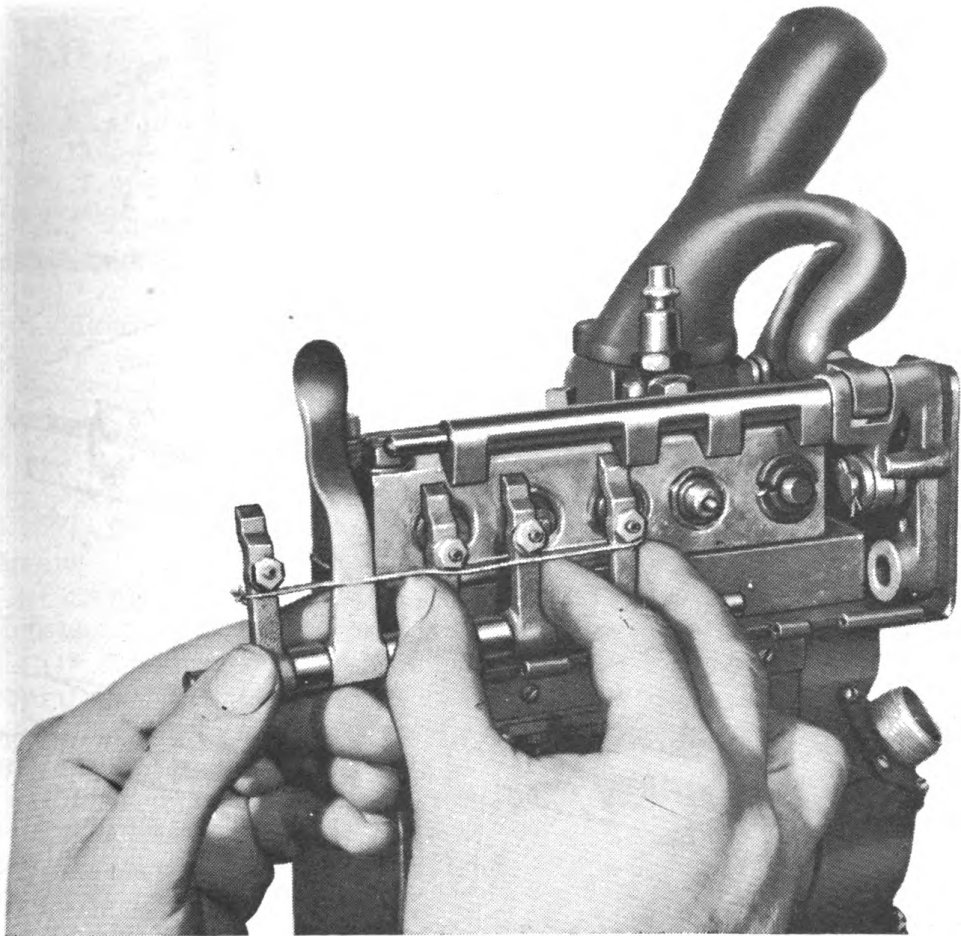

Fig. 105. Removing control levers, spacers, and shaft.
- Remove control levers, spacers, and shaft upon which they are mounted (fig. 105).
(1) Prepare gun for test firing, but do not open fuel container valve or the air cylinder needle valve.
(2) Remove dust cover and flame shield.